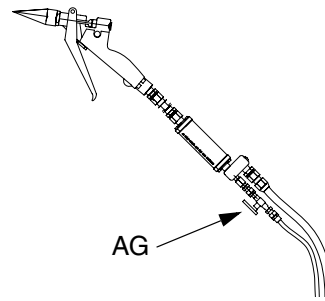

FIG. 20
2. Fill the hose to the manifold. Disconnect the catalyst hose [with the shutoff valve (AG)] from the mix manifold, and place the hose over a waste container, FIG. 20.